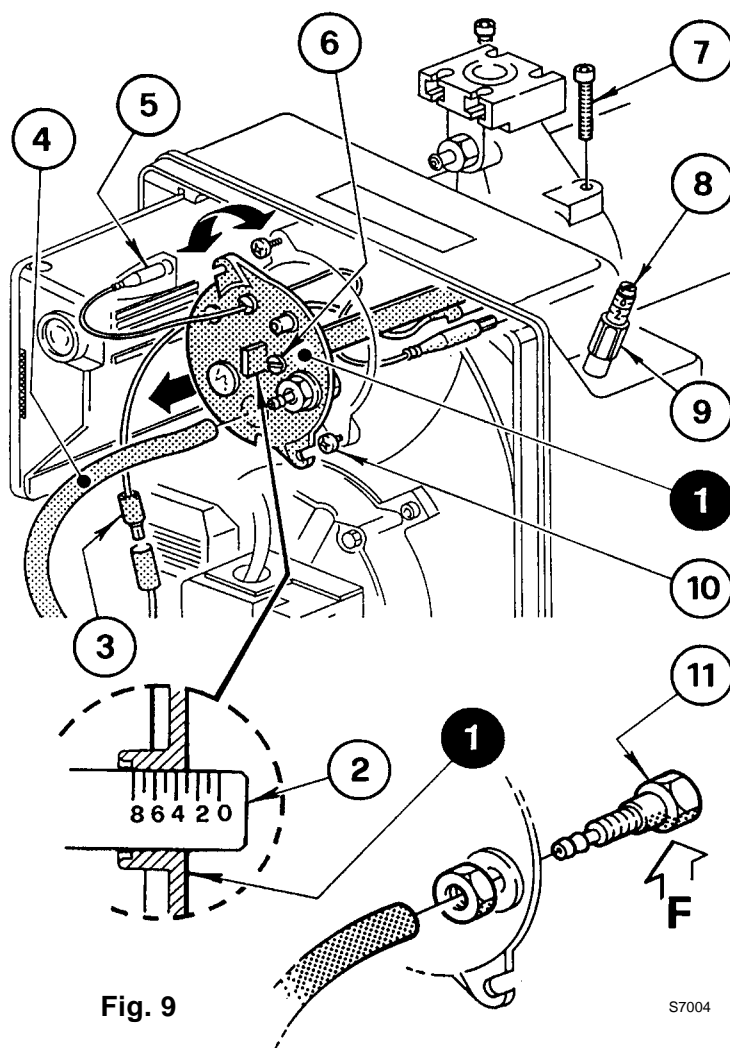

Fig. 9
4.2 COMBUSTION HEAD SETTING, (see fig. 9)
Figure 9 shows the head regulating rod set on set point 3.
- Tighten the screws (7) completely (without locking them); then lock them with a torque wrench setting of 3-4 Nm.
- If the pressure test point (11) should work loose, it must be correctly fixed ensuring that the hole (F) inside the head assembly (1) is facing downwards.
4.3 AIR DAMPER SETTING, (see fig. 9, page 9)